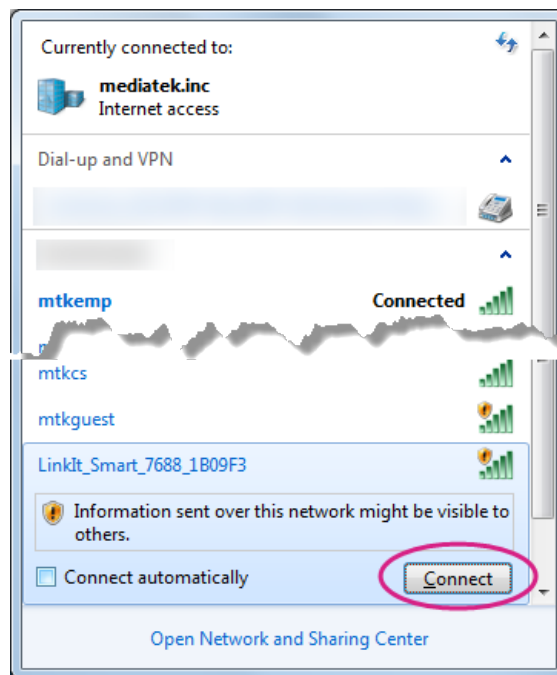

Figure 16 Connecting to LinkIt Smart 7688 AP
- Open the Wi-Fi connection utility on your computer and connect to the access point named LinkIt\_Smart\_7688\_1B09F3 (1B09F3 is the MAC address and yours could be different), as shown in Figure 16.